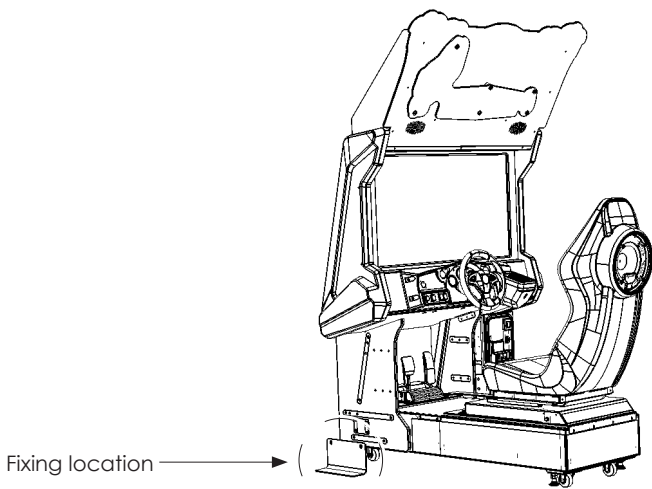

Fig. 6.2.1a
- 1 Place one of the two STABILIZER plates near the fixing location. Remove the M8x30 Bolts (2) from the lower section of the cabinet as shown in Fig 6.2.1a.